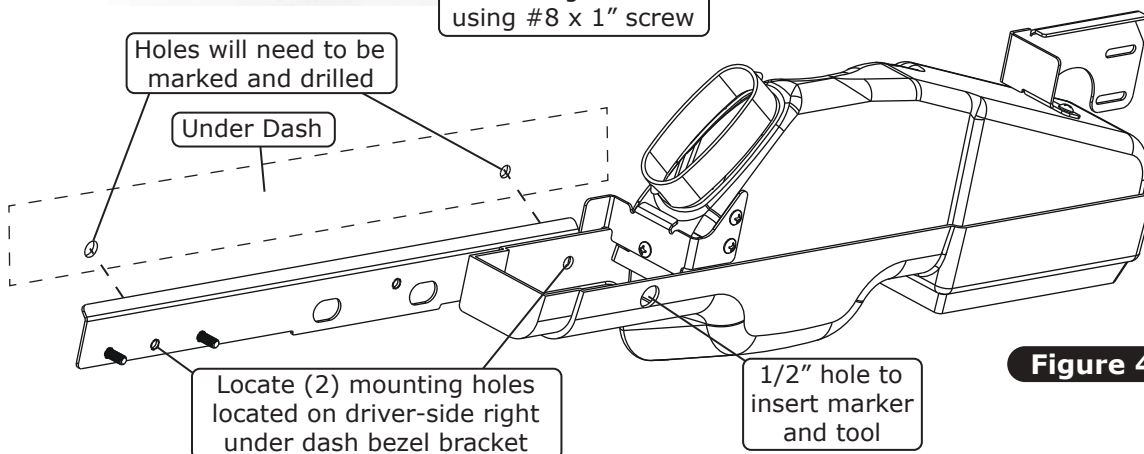

Figure 4
7. Locate the (2) mounting holes on the right-side bracket, these two holes must be marked under the dash, hold the assembly against the dash, make sure the bracket is aligned and parallel to the bottom of the dash. Once aligned, mark the two holes shown on Figure 4, these will be drilled on the next steps. **NOTE: The plastic assembly has a 1/2" clearance hole underneath to be able to insert a marker and later the tool to secure the assembly to the dash (See Figure 4, below).**